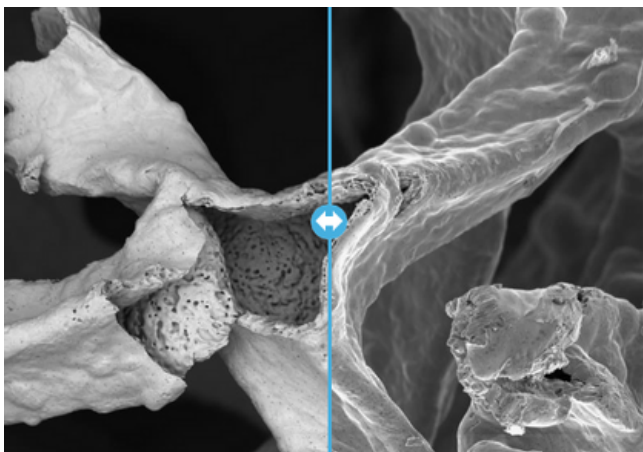

Figure 1 – Mixed mode, easy overlay of SE and BSE images
The NANOS enables simultaneous viewing of secondary electron (SE) and backscattered electron (BSE) images, which can be overlaid or displayed side-by-side for a comprehensive view of the sample's surface and composition. (See figure 1)